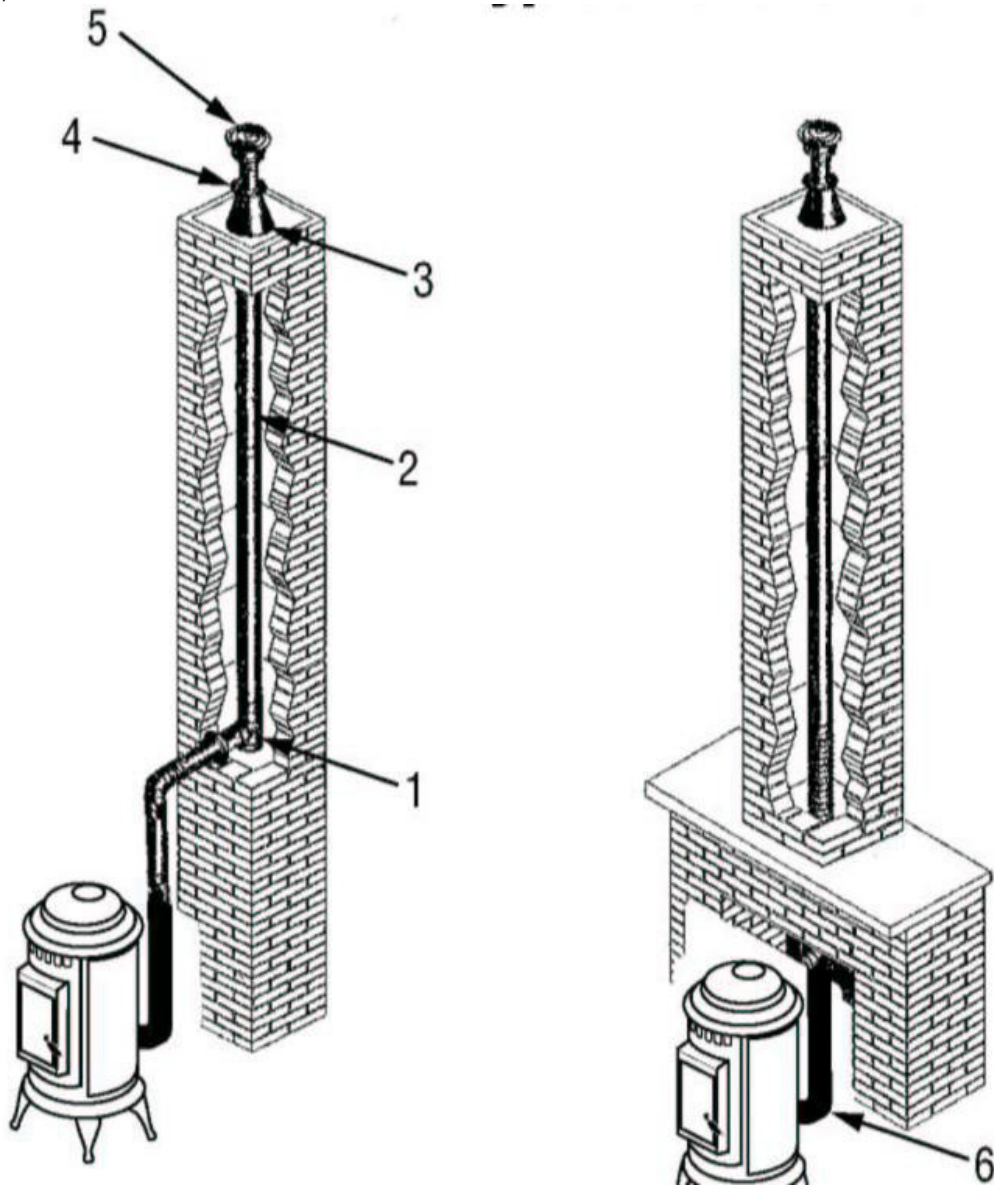

FIGURE 9
2. Locate thermostat terminal at the bottom of the stove (see **FIGURE 9**).
6. Open hopper lid and REMOVE all manuals and materials shipped with stove. Open front door and remove contents. Fill hopper with pellets. The Gnome pellet hopper will hold approximately 40 pounds of pellets. The hopper lid must be closed before operating the unit. The feed motor will not work if the hopper lid is open. Open front door and remove contents. Make certain fire pot is seated flush and must sit even in the fire pot holder. Air leakage around the fire pot will create a poor burn (See **FIGURE 9**).